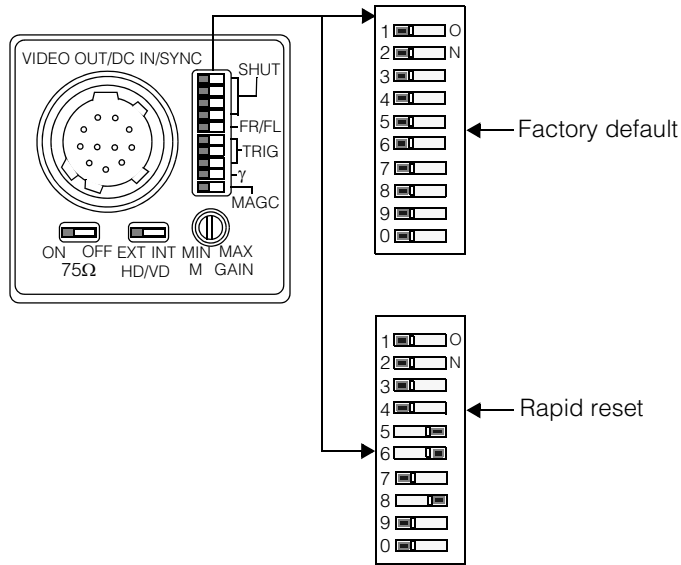

Figure 8. Sony XC-ES50 camera back panel
Figure 8 shows the back panel of the Sony XC-ES50 camera with the switches in their factory default and rapid reset modes.
1. Configure the 10-position DIP switch as shown in Figure 8.